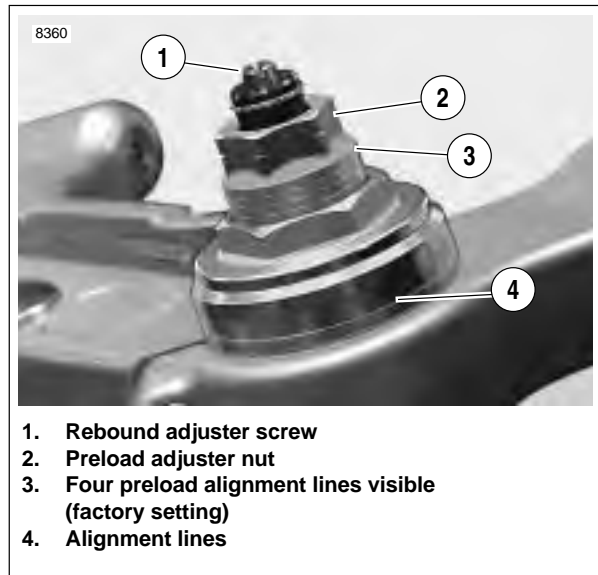

Figure 2-74. Front Fork Preload And Rebound Adjuster
4. See Figure 2-74. Position fork with alignment lines (4) visible and reflector facing to the side and tighten the lower fork clamp.
10. See Figure 2-74. Position both forks with same number alignment lines (4) visible and reflectors facing to the sides. Do not tighten.